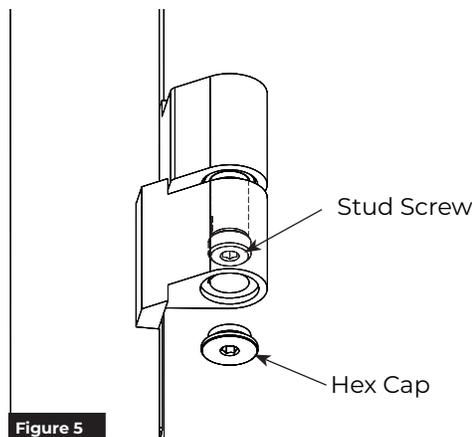

Figure 5
2. Remove hex cap from bottom of intermediate pivot(s). (Figure 5)
3. Turn stud screw clockwise to raise the door to desired height. (Figure 5)
5. Turn stud screw counter clockwise until door rests on shims. (Figure 5)
8. Replace hex cap of intermediate pivot. (Figure 5)